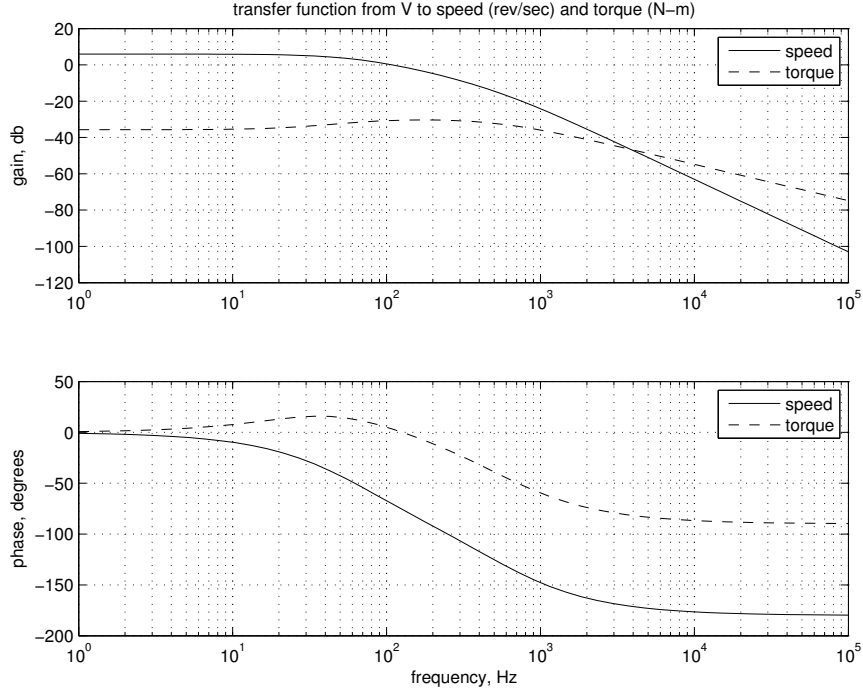
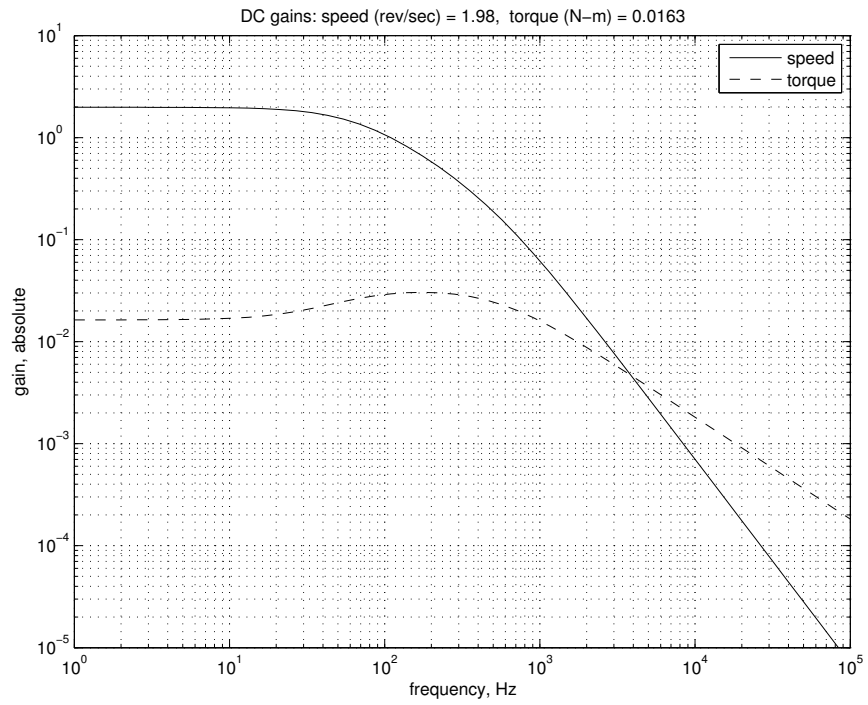
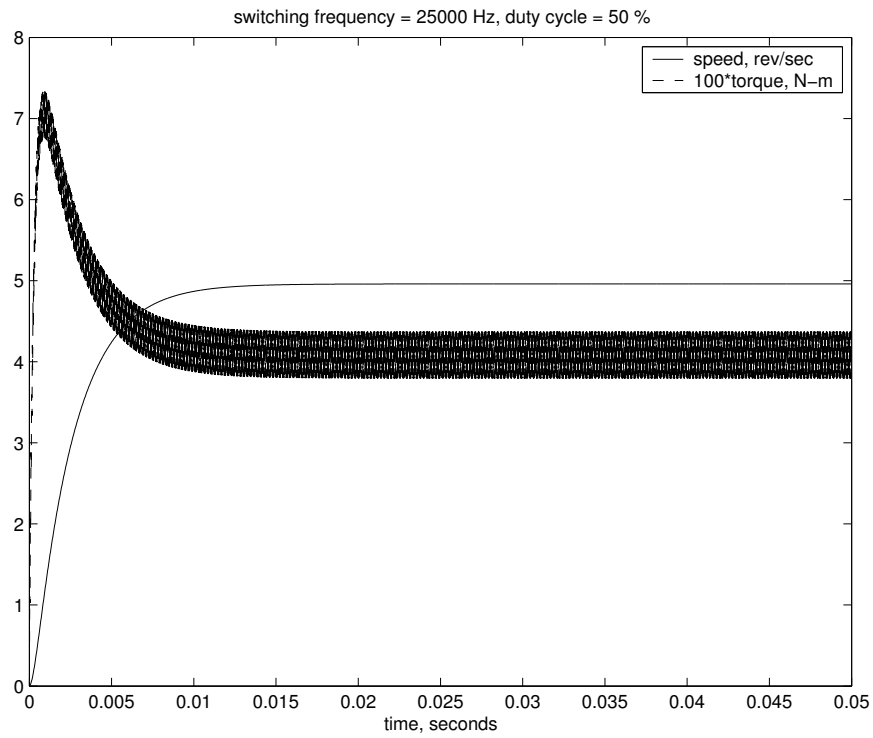

Figure 8: Frequency Response of DC Motor
Figure 9: Magnitude Response of DC Motor, absolute units
Figure 11: PWM with 25 kHz Switching Frequency
- (c) SOLUTION: The frequency response plots are shown in Figure 8, and the magnitude is plotted in absolute units in Figure 9. We see that the DC gain of the speed response is 1.98 (rev/sec)/V , and the DC gain of the torque response is 0.0163 N-m/V . Hence the steady state response to an input of one volt will be $\Omega = 1.98 \text{ (rev/sec)}$ and $T_M = 0.0163 \text{ N-m}$. These values together with the stated values of K_M , K_V , and R may be used to show that the torque-speed equation is satisfied (remember to convert Ω back to units of rad/sec).
- (e) SOLUTION: It follows from Figure 9 that the DC gain of the speed response is equal to 1.98 (rev/sec)/V , the gain at 25kHz is $9.8 \times 10^{-5} \text{ (rev/sec)/V}$, and the ratio of these gains is thus 4.9×10^{-5} . Similarly, the DC gain of the torque response is 0.017 (N-m/V) and the gain at 25kHz is $6.8 \times 10^{-4} \text{ (N-m/V)}$. It follows that the relative attenuation of the 25kHz component of the PWM input (with respect to the gain of the DC component) is an order of magnitude greater for the speed response than for the torque response. This is reasonable physically, because the speed signal is filtered through the mechanical dynamics as well as the electrical dynamics, and thus receives additional filtering. As a consequence, we see essentially no switching in the speed response of Figure 11, but we do see some
- (f) SOLUTION: The steady state response of speed is about 4.95 rev/sec, and that of torque is about 0.041 N-m. We may compute these responses as follows. A PWM signal with amplitude 5 and a 100% duty cycle corresponds (approximately) to a step input of amplitude 5. Since the speed response of the motor has DC gain equal to 1.98 (rev/sec)/V, such a full duty cycle will result in a steady state speed of 9.9 rev/sec. More generally, a 100% ($0 \leq x \leq 1$) duty cycle will thus result (approximately) in a steady state speed of $9.9x$ rev/sec. For example, a 50% duty cycle will result in a steady state shaft speed of about 4.95 rev/sec, which is consistent with Figure 11. Similar remarks apply to the torque response.